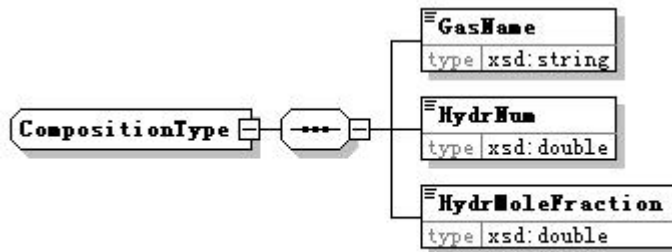

Figure 7. CompositionType
- **Composition** [ghml:CompositionType] - Composition of the complex hydrate (Figure 7).